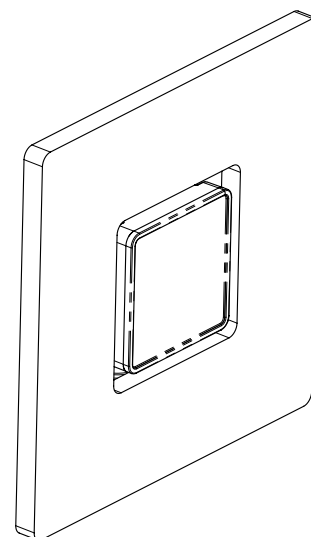

FIGURE 1
2. Mark and cut out section of drywall allowing approximately 1/2" clearance around the SES160B enclosure. (See Figure 1)